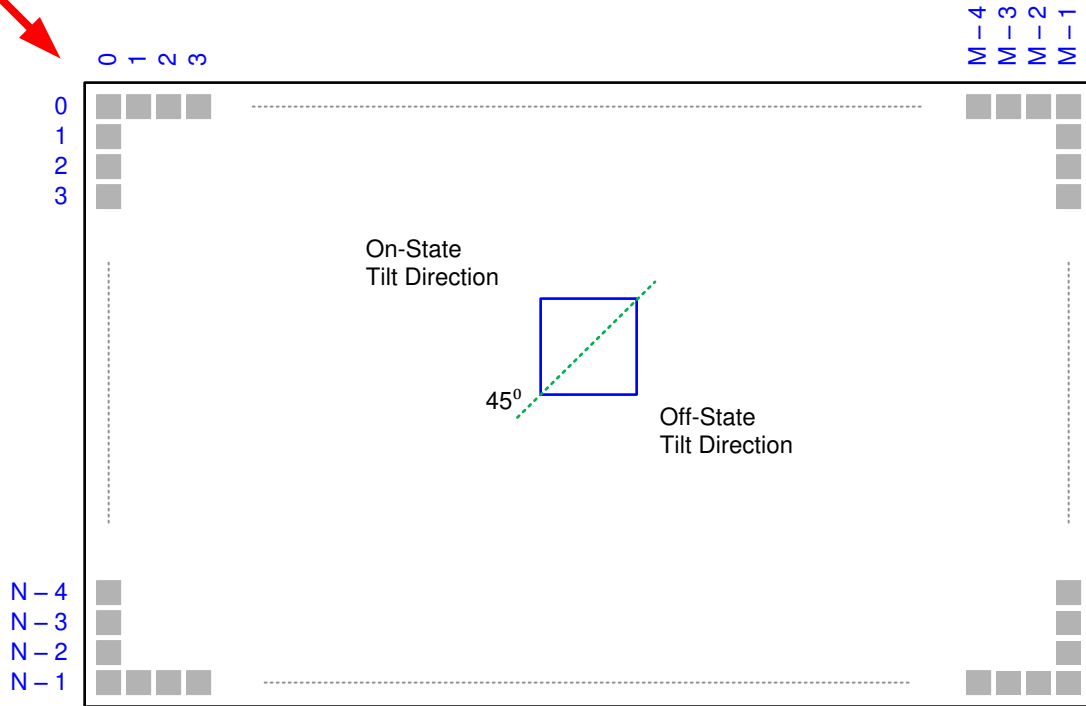

Figure 6-9. Micromirror Landed Orientation and Tilt
- (1) Measured relative to the plane formed by the overall micromirror array
- (2) Represents the variation that can occur between any two individual micromirrors, located on the same device or located on different devices.
- (3) For some applications, it is critical to account for the micromirror tilt angle variation in the overall system optical design. With some system optical designs, the micromirror tilt angle variation within a device may result in perceivable non-uniformities in the light field reflected from the micromirror array. With some system optical designs, the micromirror tilt angle variation between devices may result in colorimetry variations, system efficiency variations or system contrast variations.
- (4) When the micromirror array is landed (not parked), the tilt direction of each individual micromirror is dictated by the binary contents of the CMOS memory cell associated with each individual micromirror. A binary value of 1 results in a micromirror landing in the ON State direction. A binary value of 0 results in a micromirror landing in the OFF State direction. See Figure 6-9.
- (5) The time required for a micromirror to nominally transition from one landed state to the opposite landed state
- (6) The minimum time between successive transitions of a micromirror
- (7) Conditions of Acceptance: All DMD image performance returns will be evaluated using the following projected image test conditions:
- (8) Bright pixel definition: A single pixel or mirror that is stuck in the ON position and is visibly brighter than the surrounding pixels